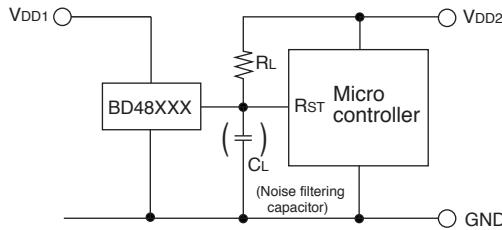

Fig.10 Open collector output type
- When the power supply of microcontroller (VDD2) and power supply for the reset detection (VDD1) is different. Provide RL for the output of a product with open drain output (BD48XXG/FVE series) on the VDD2 side, as shown in Fig.10.